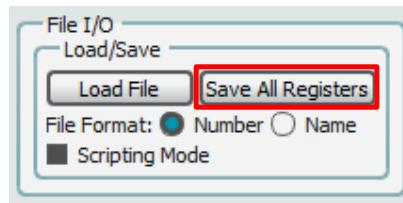

Figure 14: File I/O
1. In the **File I/O** window, click on **Save All Registers**, see Figure 14.